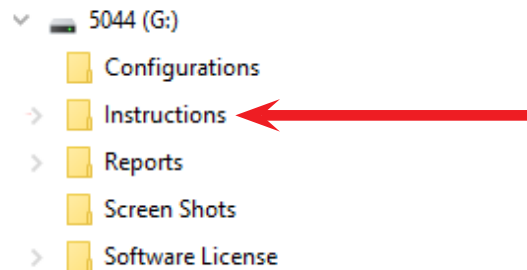

FIGURE 46
2. We have several of our “Sherline-based” instructions on the USB flash drive that came with your Acorn controller (see Figure 46).